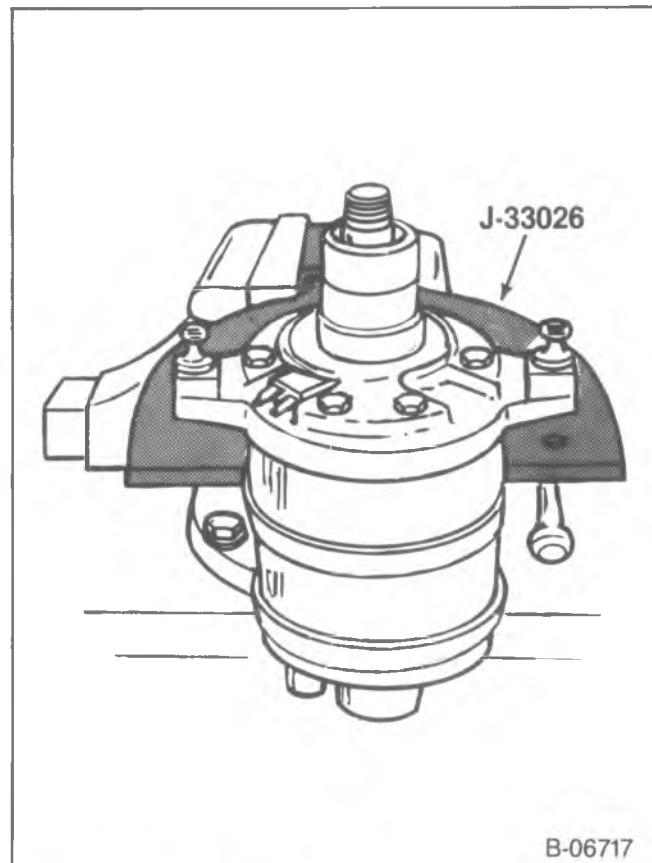

Figure 38—Installing the Compressor to J-33026
- Front head (11) is now assembled in the "standard" position and may differ 120 degrees either direction. Assemble front head (11) according to location marked before removal.
- Using both hands, press down on front head (11) for installation over the seal (15) at the front of the cylinder (16).
- 12. Through bolts (7) with new gaskets.
- Thread four of the through bolts (7) into the rear head (28) before removing J-33016 guide pins. Install two remaining through bolts (7) finger tight.
- Mount the compressor on J-33026 (figure 38).